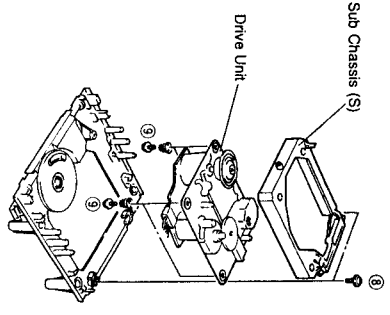

Fig. 4
- a. Remove 2 screws (8) in Fig. 4.
- b. Remove 4 screws (9) and then remove the Drive Unit in Fig. 4.